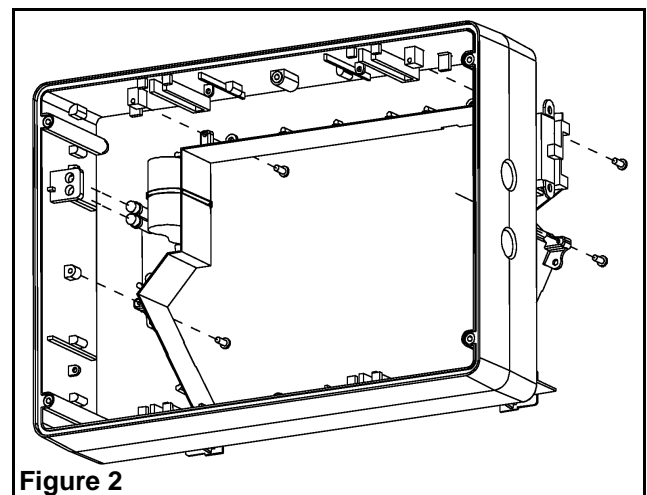

Figure 2
- d. In order to access the knockouts of the frame, remove the 4 electronic module screw(s) holding the electronic module to the frame and separate them see fig.2).